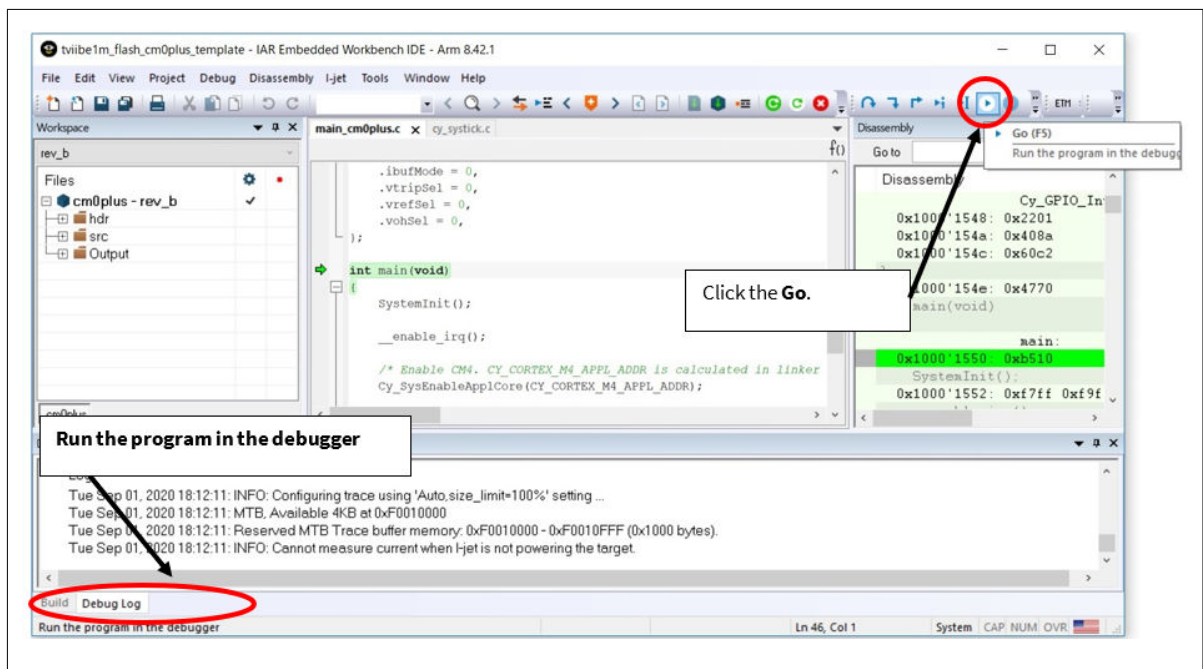

Figure 30 Execution on Flash memory
4. Click the **Go** icon as shown in Figure 30.
When these operations are performed, both CM0+ programs will be in the program running state and debugging will be possible as shown in Figure 30. The board LED starts blinking.